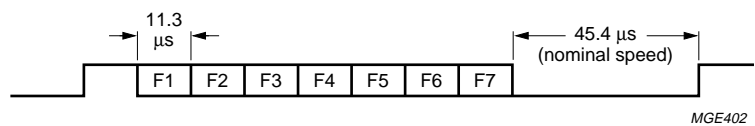

Fig.16 C-flag output timing.
15.4 C-flag timing (see Fig.16)